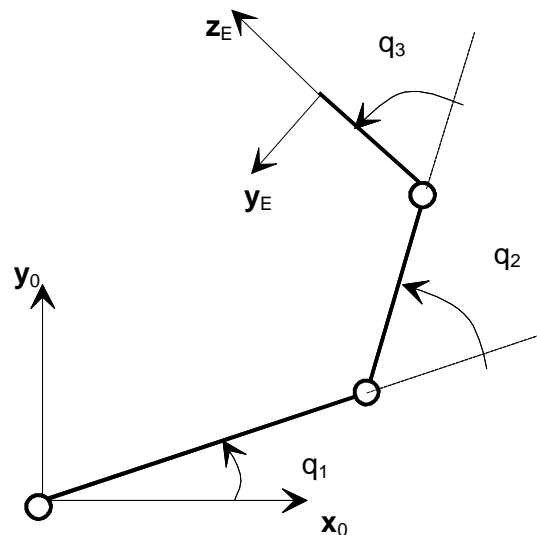

Figure 1
Q.1 A 3-dof planar robot is shown in Figure 1. All joints are rotational and all the joint axes are parallel. The robot is designed to position the end effector (Frame E) at a point (p_x, p_y) in the x_0y_0 plane and to orient the end-effector such that z_E makes an angle Φ with respect to the horizontal (x_0) axis. The lengths of each link are L_1 , L_2 , and L_3 , respectively, starting from the base. Assume that $L_1 > L_2 > L_3$. The zero position of each joint is indicated in the figure together with the direction for positive motion.